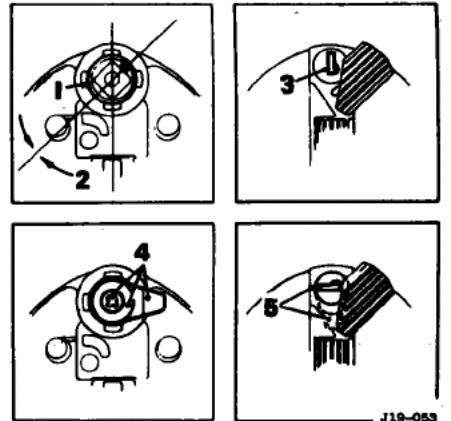

Fig. 25
If the key is not available, insert a piece of stiff wire to lift the tumblers and turn the barrel to mid position (1, Fig. 25).
Keep the barrel in this angular position and press from the lid (2, Fig. 25).
When refitting, insert the key in the barrel of the replacement lock and offer into the lid. Remove the key (3, Fig. 25).
Secure the ward to the barrel using the screw and washer (4, Fig. 25).
Test-operate the lock and ensure that the ward turns to a position in line with, and facing, the lid catch. Unlock (5, Fig. 25).